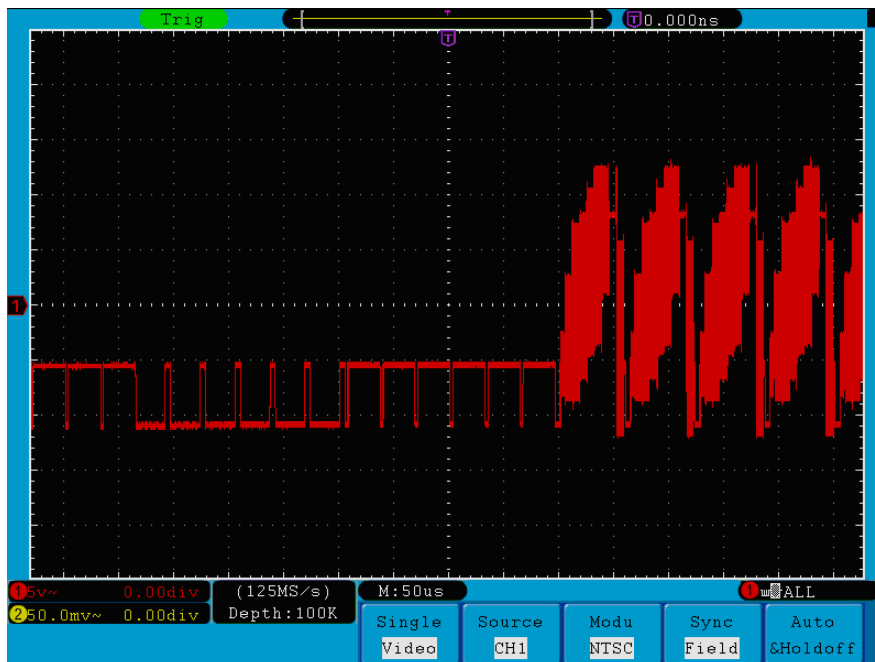

Figure 6-7 Waveform Captured from Video Field Trigger
- (1) Press the **Trigger Menu** button to display the trigger menu.
- (2) Press the **H1** button to display the trigger type menu.
- (3) Press the **F1** button to choose **Single** for Type.
- (4) Turn the **M** knob to choose **Video** as the mode.
- (5) Press the **H2** button to display the Source menu.
- (6) Press the **F1** button to choose **CH1** for Source.
- (7) Press the **H3** button to display the Modu menu.
- (8) Press the **F1** button to choose **NTSC** for the modulation.
- (9) Press the **H4** button to display the sync menu.
- (10) Press the **F2** button to choose **Field** for Sync.
- (11) Turn the **VOLTS/DIV**, **VERTICAL POSITION** and **SEC/DIV** knobs to obtain a proper waveform display (see *Figure 6-7*).